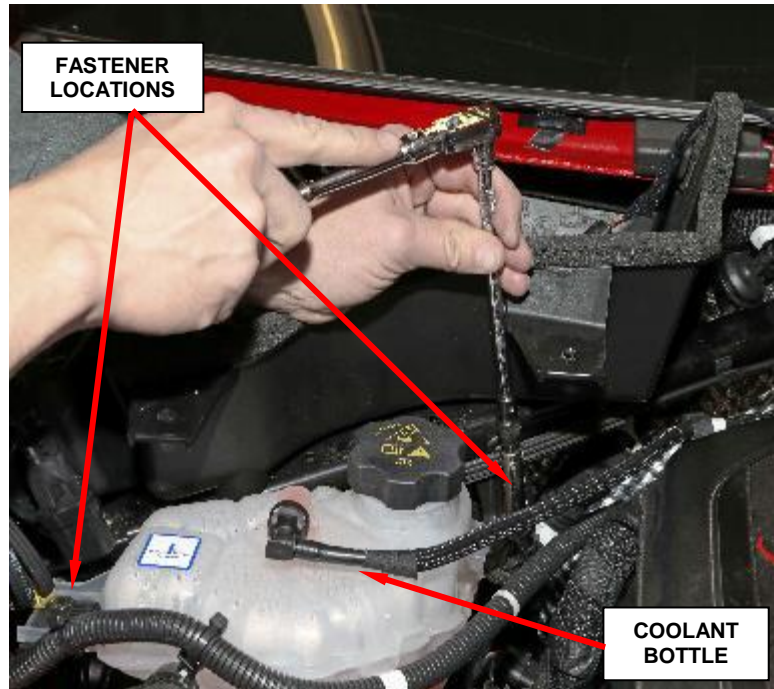

Figure 12 – Coolant Bottle
- 8. Remove the two coolant bottle fasteners (Figure 12).